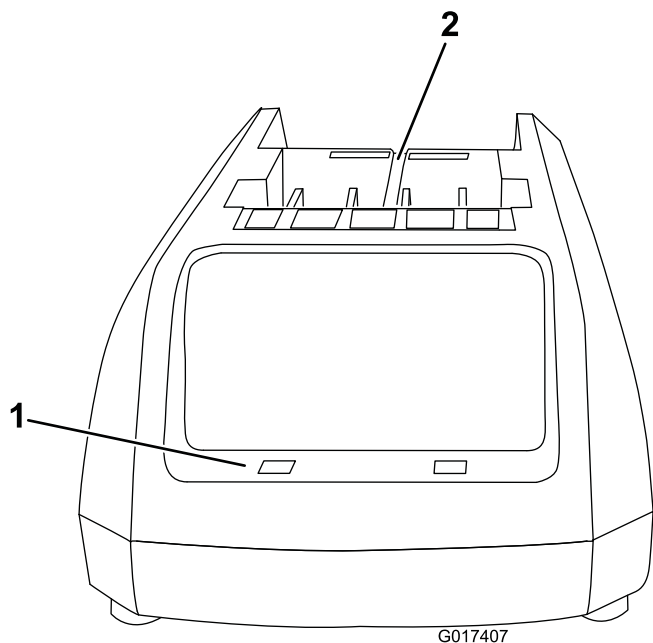
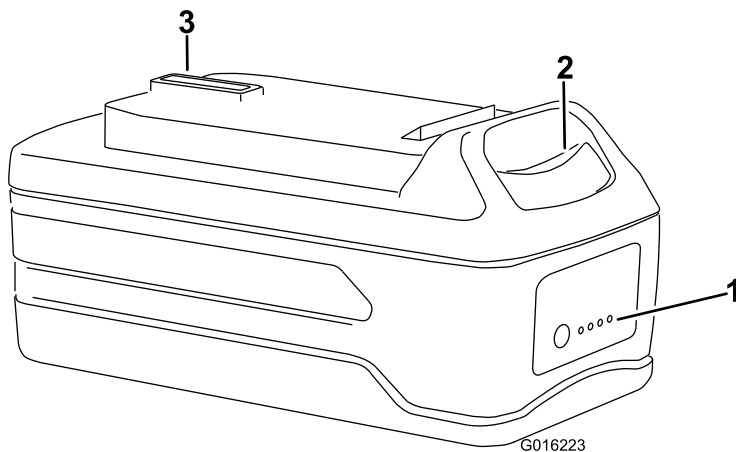

Figure 4
Figure 5
- Turn the battery upside down and line up the battery terminal with the slot in the charger (Figure 4 and Figure 5).